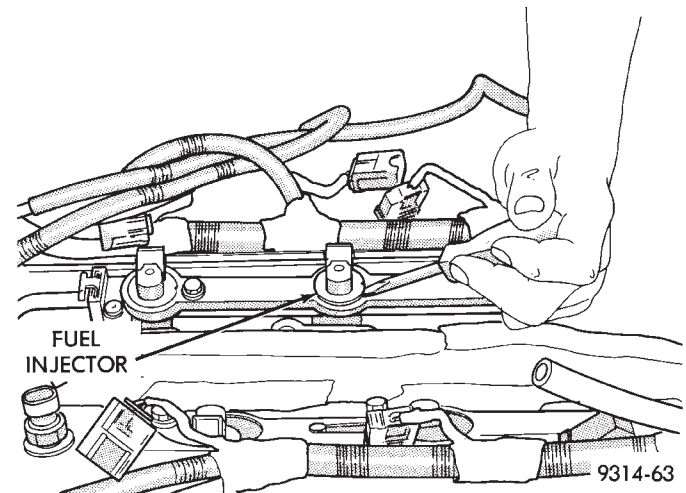

Fig. 32 Fuel Injector Removal—3.5L Engine
- (11) Install fuel rail mounting bolts finger tight.
- (12) Using a thin flat screwdriver, pry the fuel injector out of the fuel rail (Fig. 32).